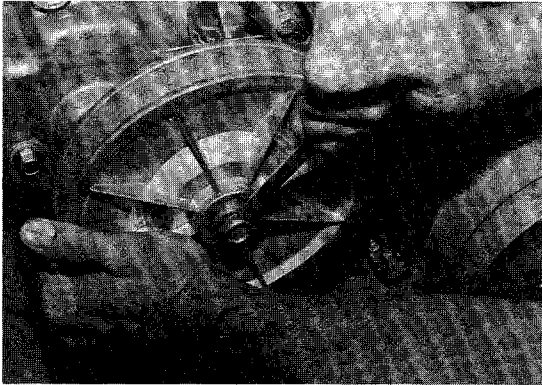

Figure 9-17
3. Remove center bolt (11), washer (9), lockwasher (10), from clutch shaft (**Figure 9-17**).